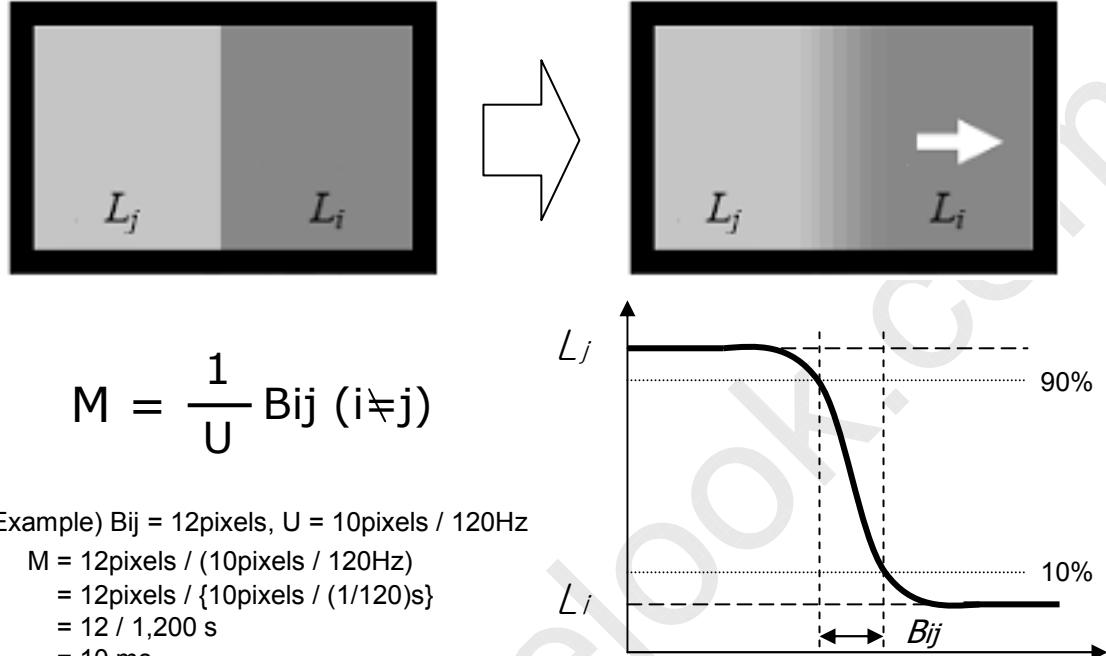

FIG. 4 MPRT
5. MPRT is defined as the 10% to 90% blur-edge width $B_{ij}(\text{pixels})$ and scroll speed $U(\text{pixels/frame})$ at the moving picture. For more information, see FIG 4